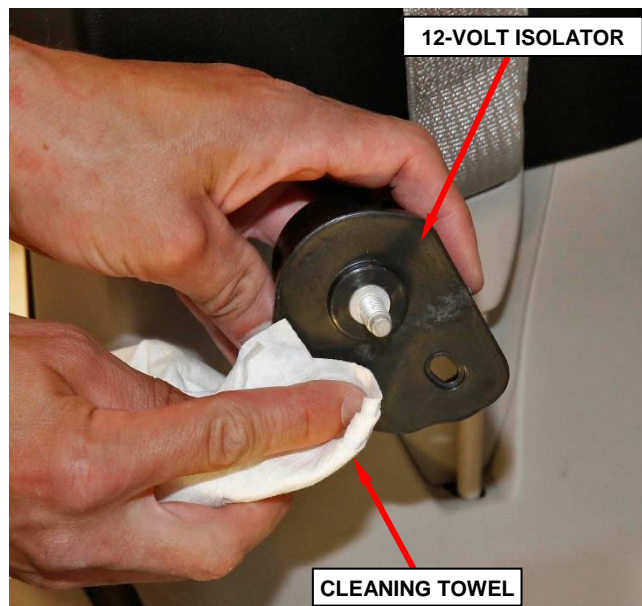

Figure 52 – Clean Gasket Sealing Area
10. Using isopropyl alcohol or Mopar glass cleaner, clean the floor gasket sealing surface side of the 12-volt isolator to ensure proper bonding of the isolator gasket (Figure 52).